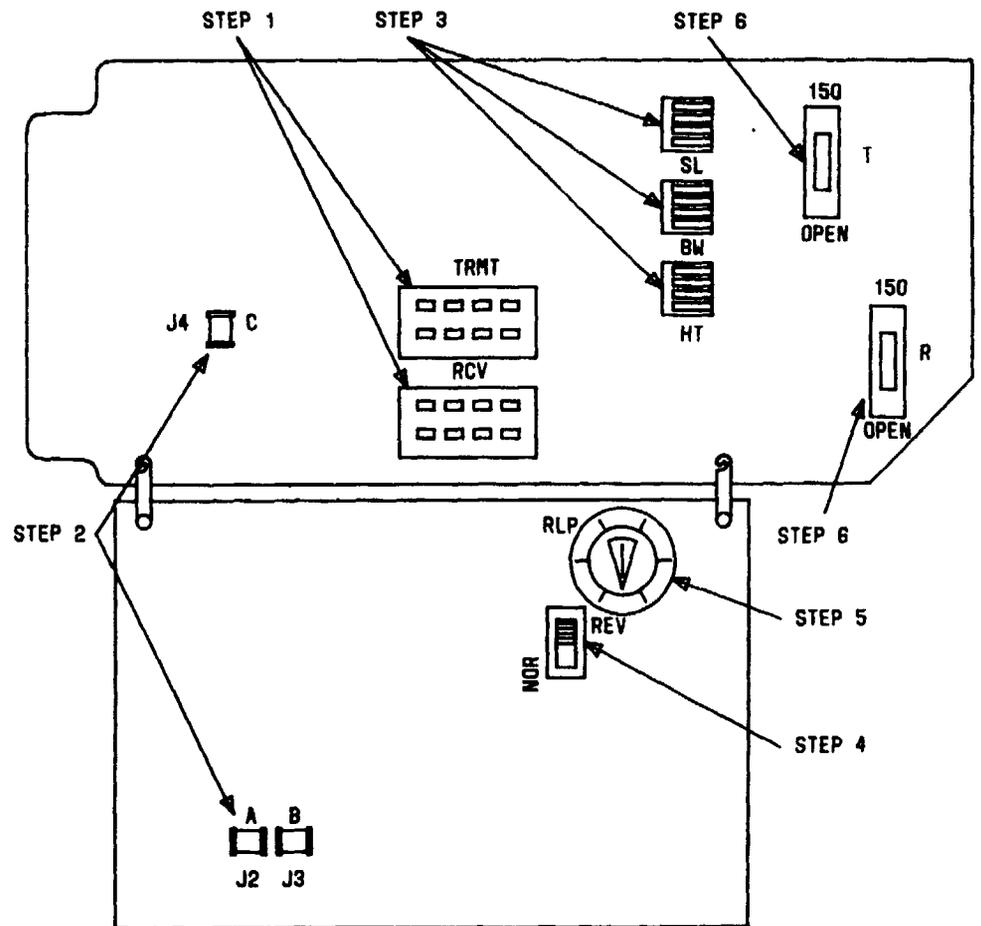

FIG. 1
- [4] From information on WORD or CLRC, set NOR-REV switch [FIG. 1]
- [5] From information on WORD or CLRC, set DX balancing potentiometer RLP [FIG. 1]
- [6] From information on WORD or CLRC, set terminating impedance for T and R [FIG. 1] [DLP-562]